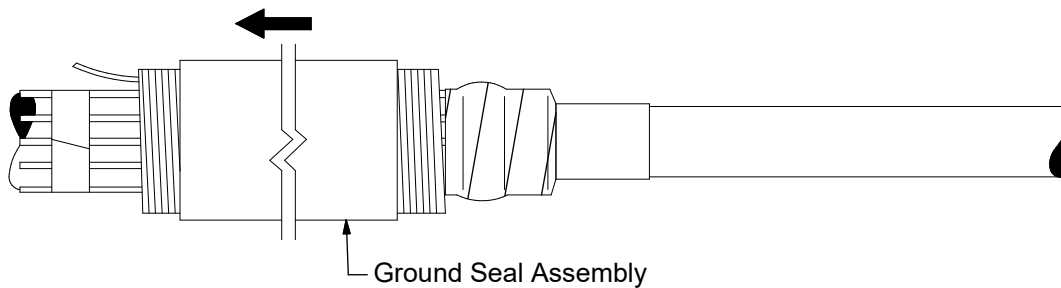

Figure 5
7. Slide the ground seal assembly onto the cable jacket, loose core end first. (Figure 5)